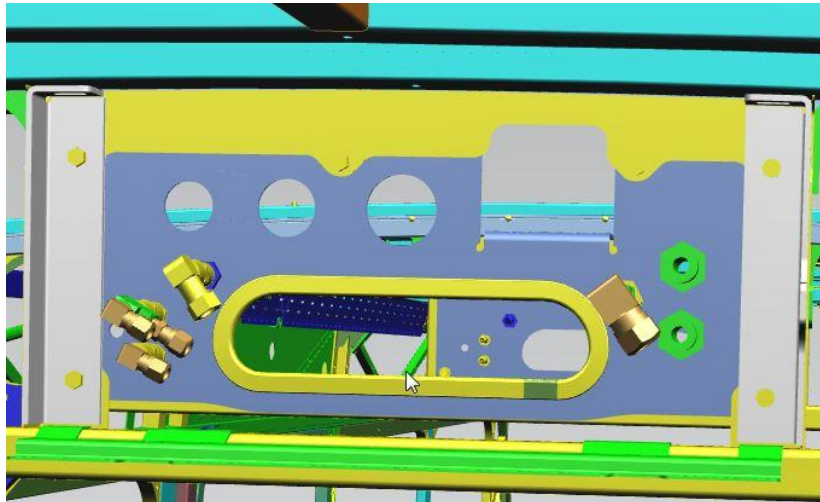

FIGURE 7: VIEW OF THE AFFECTED WORK AREA.
11. On the interior of the coach, gain access to the rear bulkhead plate at the rear of the front bus. Open the access door to gain access. See Figure 7.